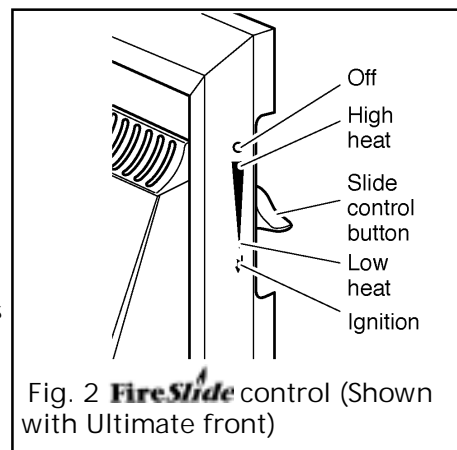

Fig. 2 **FireSlide** control (Shown with Ultimate front)
The **FireSlide** control is shown in figure 2.
3. If low heat is required, release the button. The button will automatically spring up to the low heat position shown in figure 2 (See note i below).
4. For a higher heat level slide the button upwards. The burner flames and heat output will gradually increase until the button reaches the high heat position shown in figure 2. When the button reaches the high heat position you will feel a check to its movement. **Do not slide the button above the high heat position unless you want to turn the fire off** (See note i below).